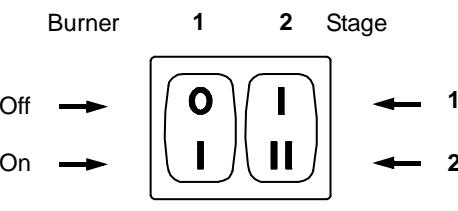

Fig. 19
- Start the burner by closing the control devices and with switch 1)(Fig. 19) in the "ON" position. The pump must rotate in the direction of the arrow marked on the cover.
- The pump can be considered to be primed when the light oil starts coming out of the screw 4) or 8). Stop the burner: switch 1)(Fig. 19) set to "OFF" and tighten the screw 4) or 8).